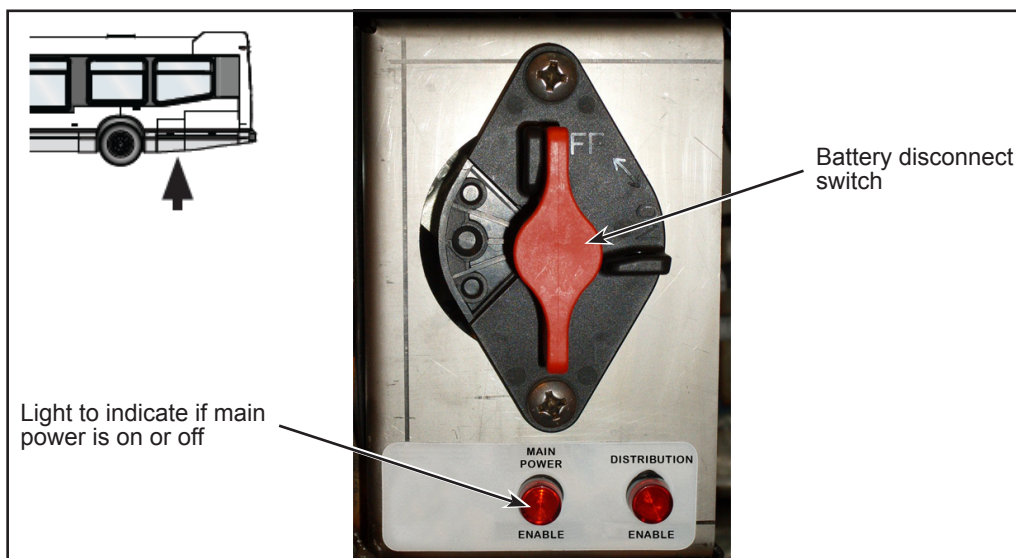

Figure 2 - Typical Battery Disconnect Switch
- 1.5. Set the battery disconnect switch in the battery compartment to OFF position (see Figure 2).